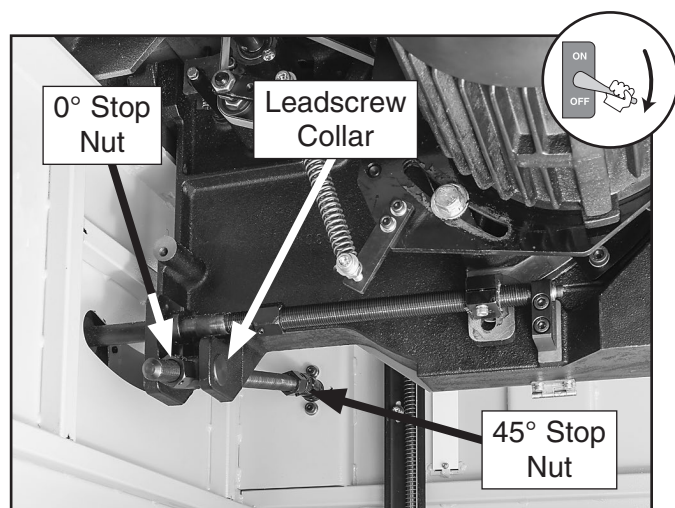

Figure 154. Blade tilt stop nuts.
3. Open cabinet door and identify stop nuts shown in **Figure 154**.
Use a similar procedure for the 45° stop nut shown in **Figure 154**, as previously instructed for the 0° stop nut.